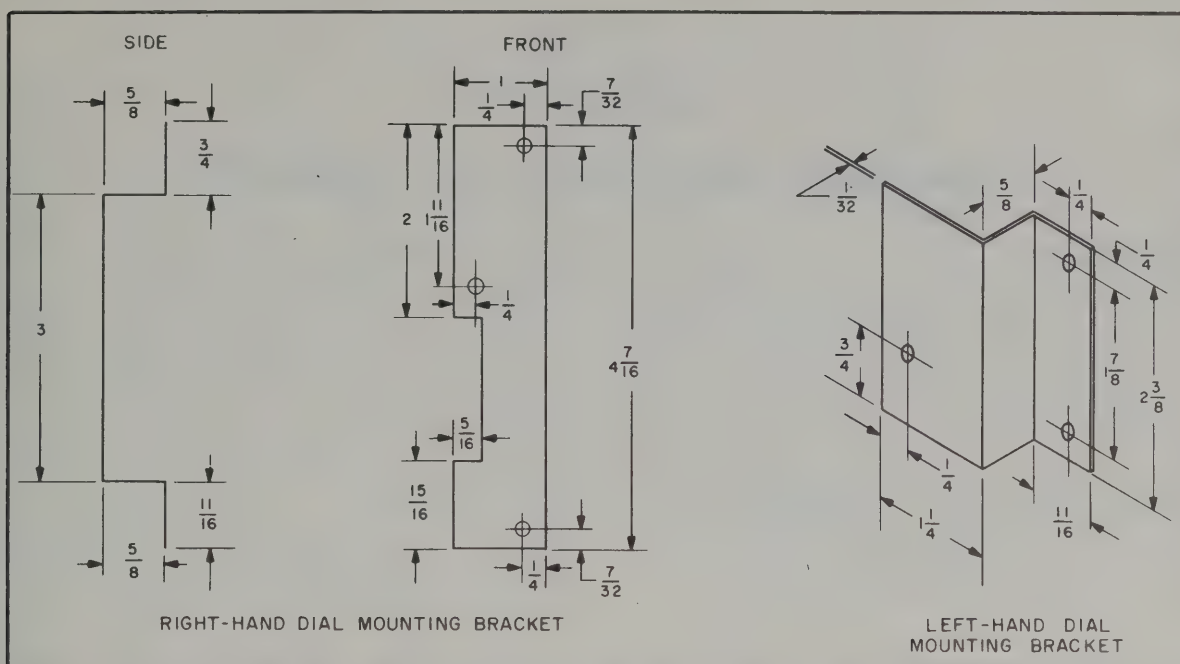

Figure 8-2. Special Brackets for Mounting Dial on Marker-Oscillator Assembly, Constructional Details
a. Mount dial plate on the marker-oscillator assembly by means of mounting brackets fabricated locally, as shown in figure 8-2. The brackets should be made from brass stock; however, any conducting material may be substituted.